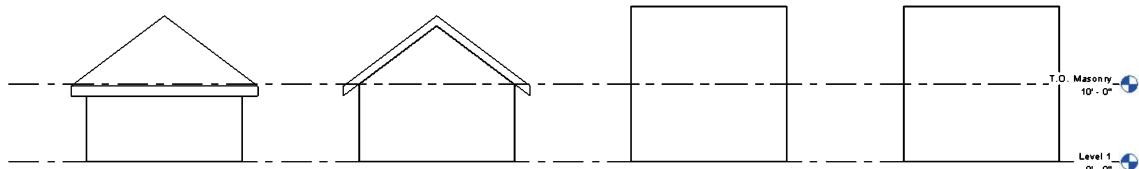

FIGURE 8-1.6 South elevation – gable roof
24. Switch to the **South** elevation view (Figure 8-1.6).